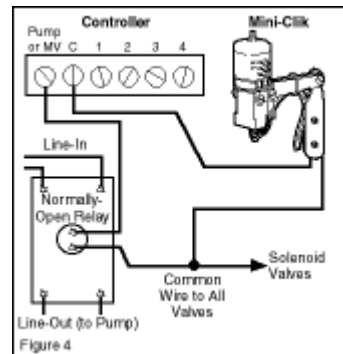

Figure 4
2. *24 Volt Solenoid Valves with Booster Pump* (See Figure 4) Locate the common wire to the solenoid valves and the common wire leading to the coil of the relay that starts the pump. If these two wires are connected to the "common" terminal on the controller, disconnect both of them. Twist together these two wires along with one wire from the Mini-Clik, and secure with a wire nut. Attach the other wire of the Mini-Clik to the "common" terminal on the controller. Note: The pump circuit output must be 24 Volts in this situation. Do not proceed if 110V.